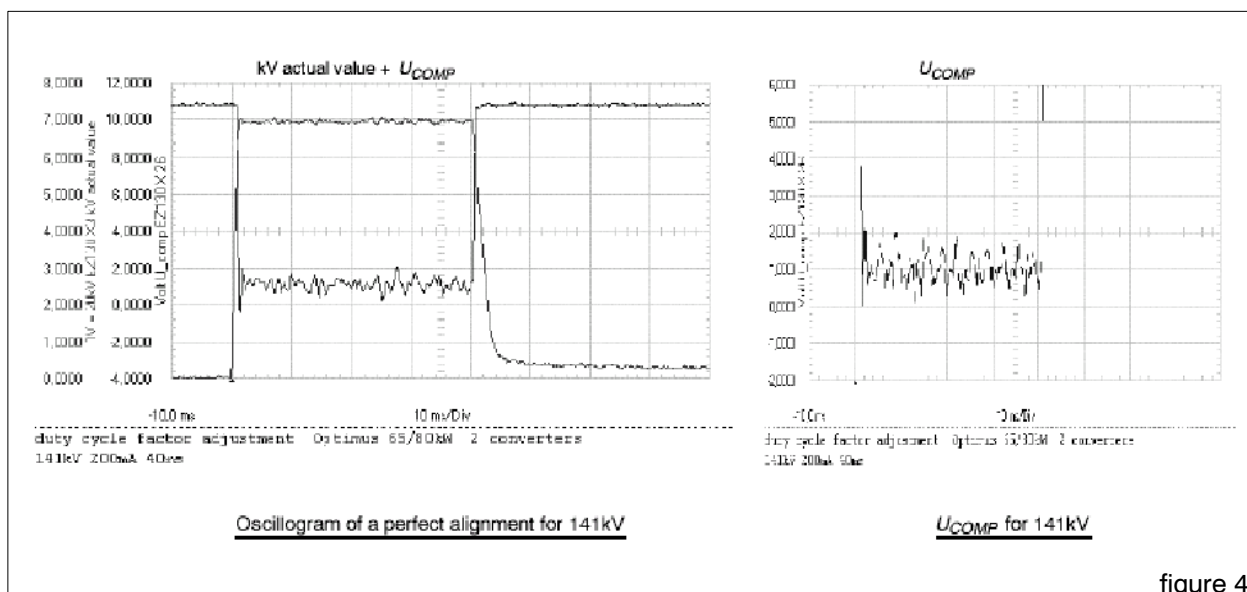

figure 4
In standby the U_{COMP} value is at about +11V, during exposure the mean value U_{COMP} must be as given in table 1 or 2, refer to figure 4:
- Read the mean value of U_{COMP} for 141kV (see scope figure 4 or 5), correct the Factor Duty Cycle till U_{COMP} meets the required reference of +1V.